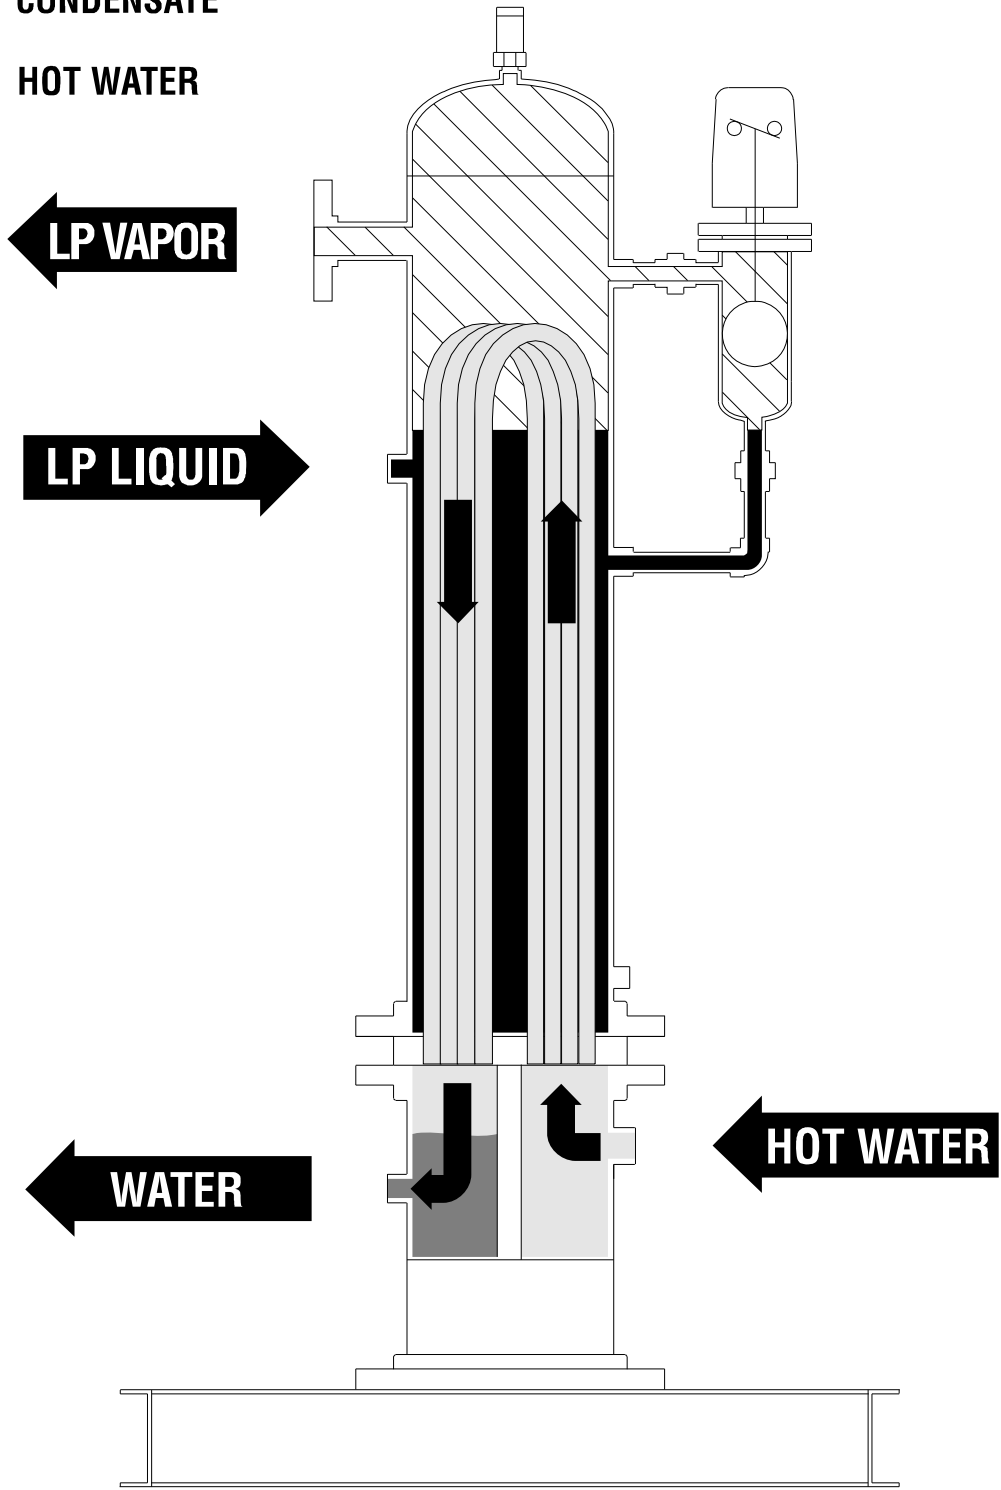

Figure 3-1 - General Schematic for VS Series Vaporizers
3.01 Figure 3-1 illustrates the general schematic for VS Vaporizers and is functionally equivalent for all VS Series Vaporizers.